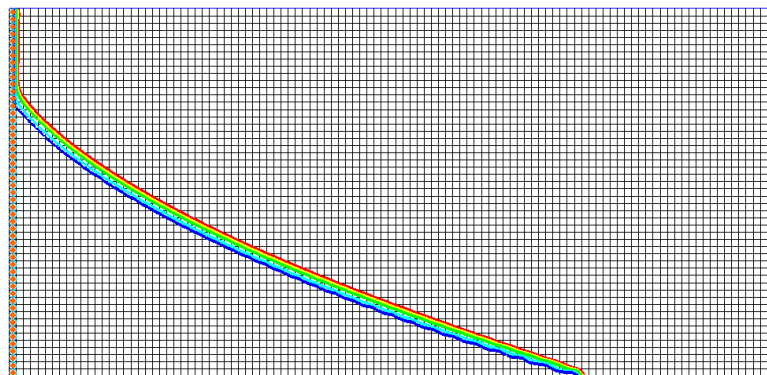

Figure 7 Time step 12 (after 55 minutes)
4. Select time step 12 in the time step window (Figure 7).